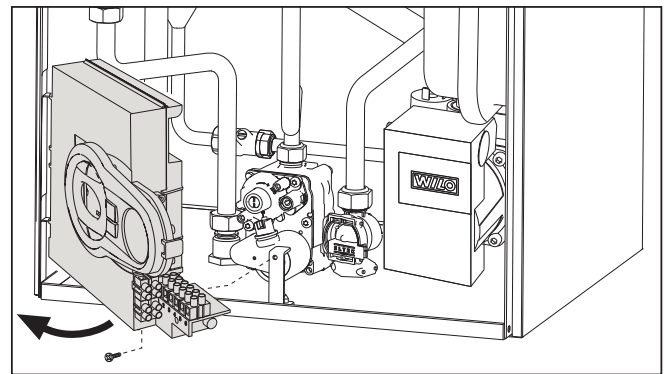

fig. 21
- Undo the screw and rotate the control panel (see fig. 21).